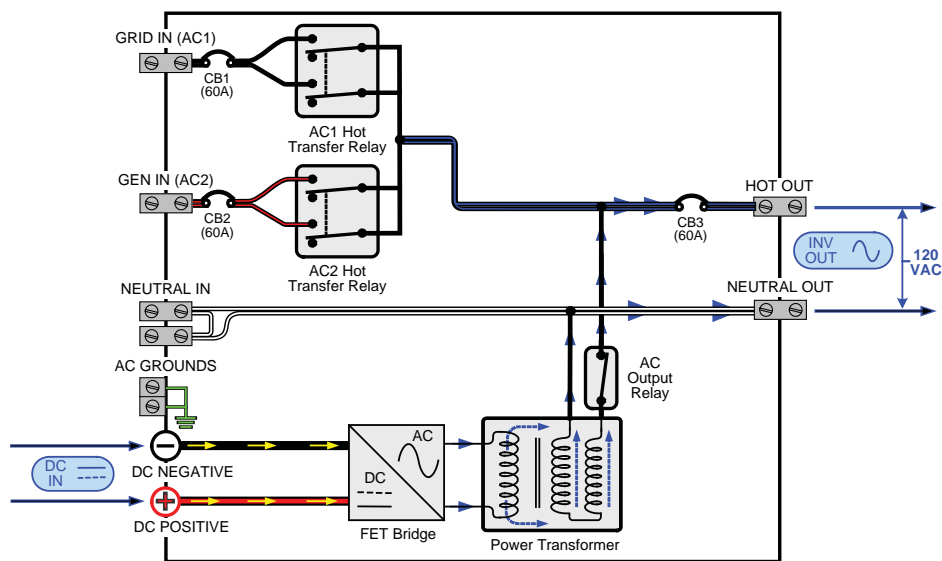

Figure 3-1, Power Flow – Inverter Mode
**Inverting** – When a load greater than 5 watts is connected to the inverter output, the MSH-RE Series inverts the DC power from the battery and supplies 120 VAC power to your sub-panel. The inverter’s green LED flashes once every 2 seconds (medium flash) to indicate it is inverting. The amount of time the inverter can be inverting and providing power is directly related to the amount of AC loads that are connected, and the capacity of the battery bank. Refer to Figure 3-1 to see the flow of power (GRID and GEN) from the DC input to the AC output while in the Inverter mode.